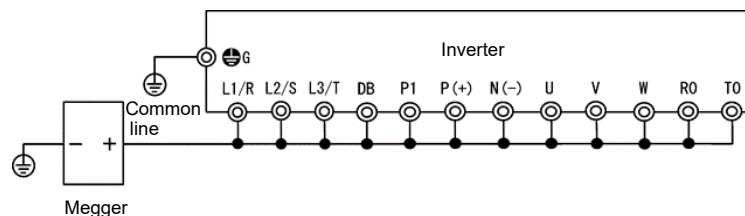

Fig. 7.6-1 Main circuit terminal connection for Megger test
- 3) Connect the main circuit terminals with common wire as shown in Fig. 7.6-1.